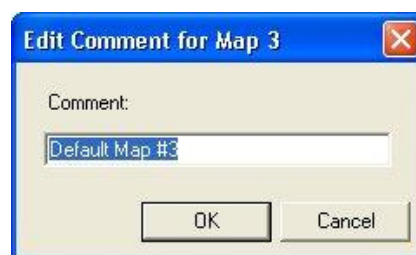

Figure 12 - Edit Map Comment Dialog
- When editing a map clicking the right mouse button in the graph area brings up a context menu that allows the comment associated with the map to be edited. When this menu option is selected the Edit Map Comment dialog (Figure 12) is displayed. Make any changes that are required and then click **OK** or **Cancel** to leave the comment unchanged. Note that these comments are only stored in the disk file and are not read from or written to the EPAS Ultra ECU.